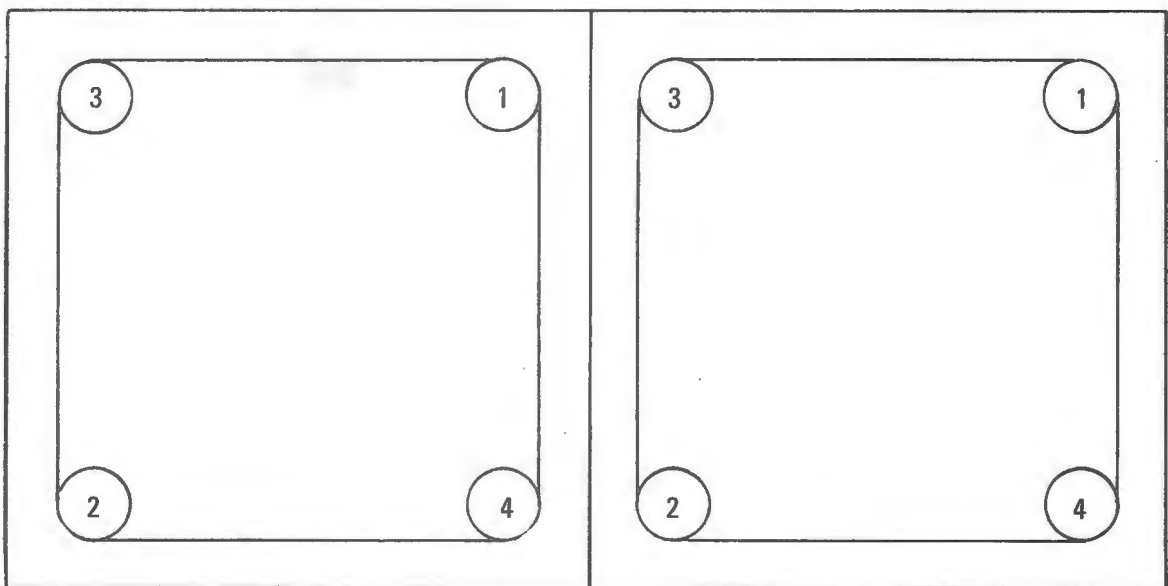

FIGURE 5-5 CYLINDER NUT TORQUING SEQUENCE
- g. Install cylinders over hold down studs and secure with eight washers, lockwashers and hold-down nuts. Torque nuts down evenly, in accordance with the sequence shown in Figure 5-5, using the wrench provided. Recommended torque is 15-18 foot-pounds maximum.